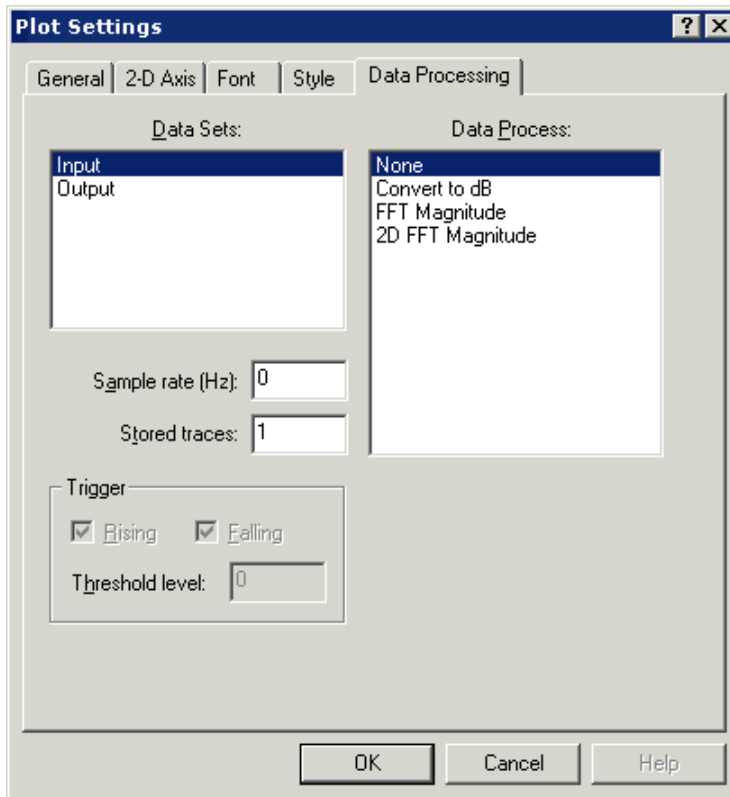

Figure 2-29. Data Processing Page
- a. Click the **Data Processing** tab to display the **Data Processing** page, shown in Figure 2-29.
6. Click the **Data Processing** tab to display the **Data Processing** page, shown in Figure 2-29 on page 2-43. Complete this page as follows.